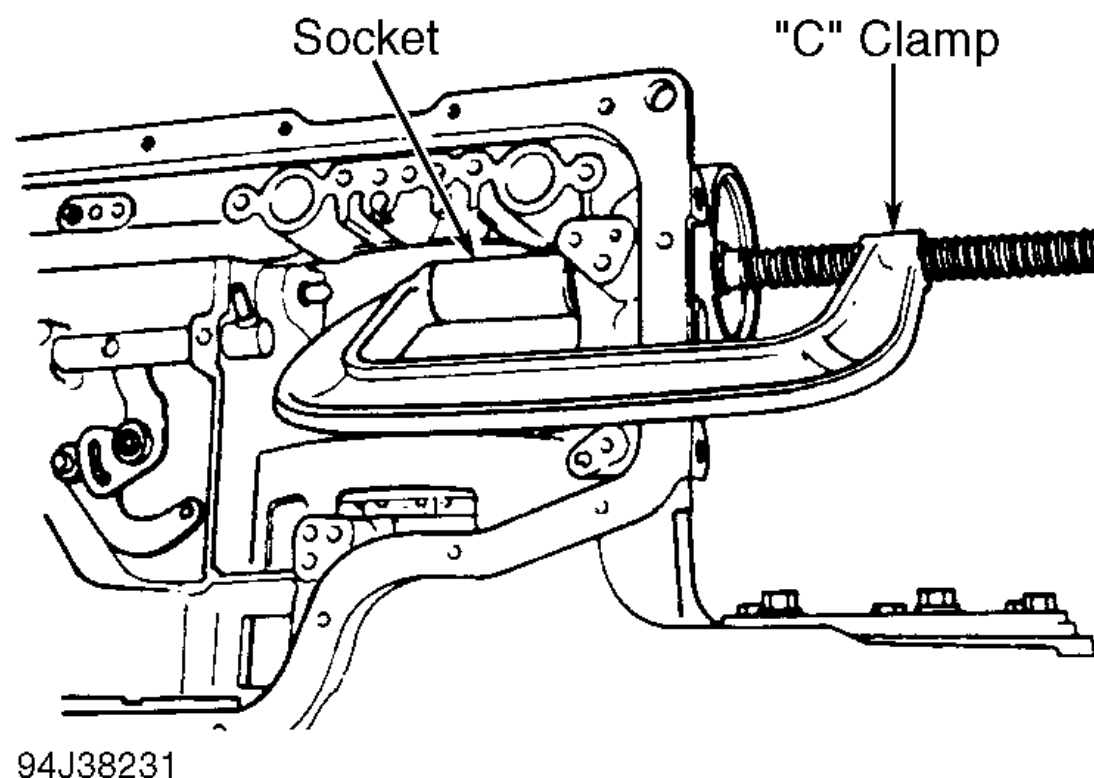

Fig. 2: Compressing Band Apply Servo
3. Loosen band adjusting stop and band adjusting stop nut. Remove band strut. Using "C" clamp and socket, compress servo piston into transaxle case. See Fig. 2. Remove snap ring. Remove servo retainer, servo piston and spring.
1. Lubricate servo piston with ATF. Assemble servo retainer, piston, piston large seal and spring. Insert assembly into transaxle. Using "C" clamp and socket, compress assembly and install snap ring. See Fig. 2. Install band strut to intermediate band. Install band adjusting stop to band and tighten to 9-10 ft. lbs. (12-15 N.m). Loosen adjusting stop 3 turns. Install and tighten band adjusting stop nut. See TORQUE SPECIFICATIONS.